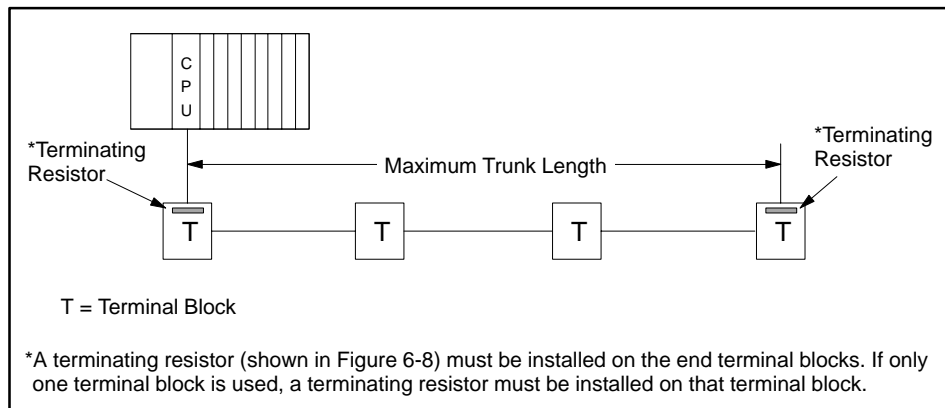

Figure 6-2 Maximum Trunk Length
- Measure the maximum length (consult Table 6-2) from the CPU to the most distant tap. See Figure 6-2.